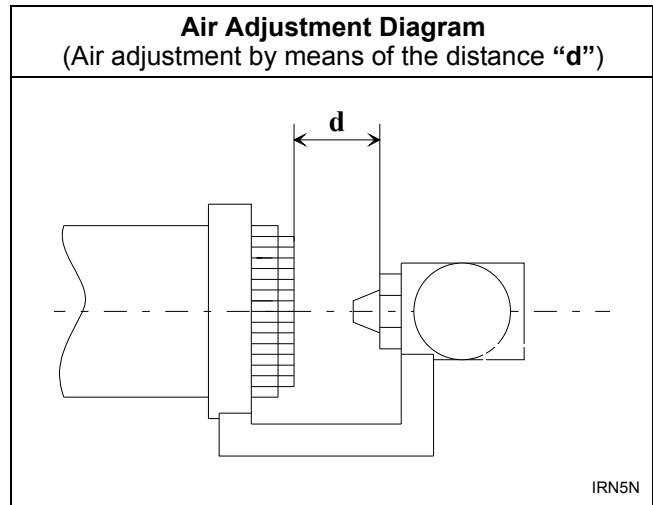

Figure 10
1. Refer to *Table 6*, *Table 7* and *Figure 10* to determine the adjustment and flow rate.